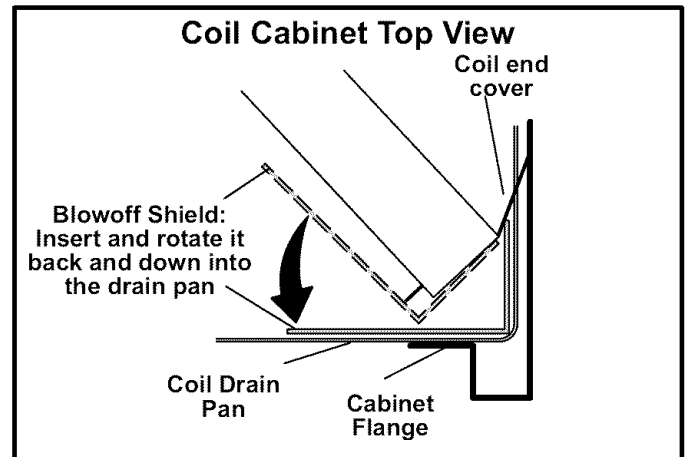

Figure 2
- 1 - Insert the short end of the shields (2.5" 64 mm) into the space between the cabinet flange and the coil end covers. See figure 2.